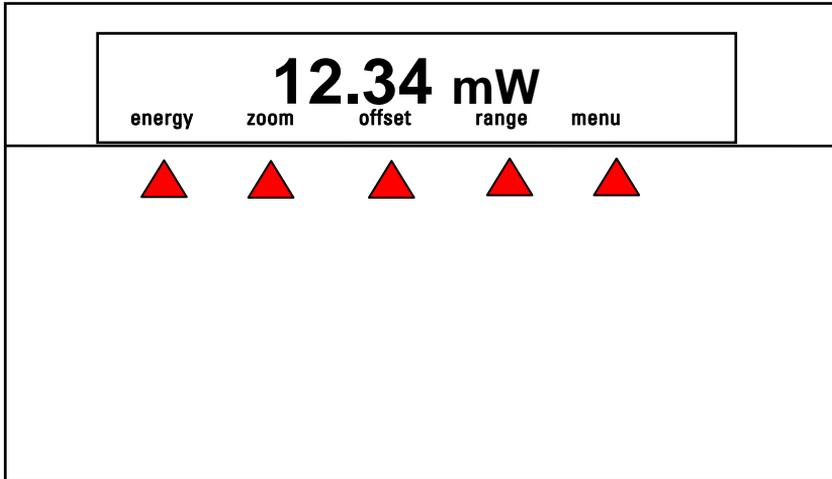

Figure 2
The Laserstar is equipped with "soft keys." That is, the functions of the keys change as indicated by the legend above each key. (See Figure 2).
1. Flick the toggle switch on the right side of the rear panel up. Note that there are three positions, down is off, the center is on and the upper position is on with backlight on. (See Figure 2).